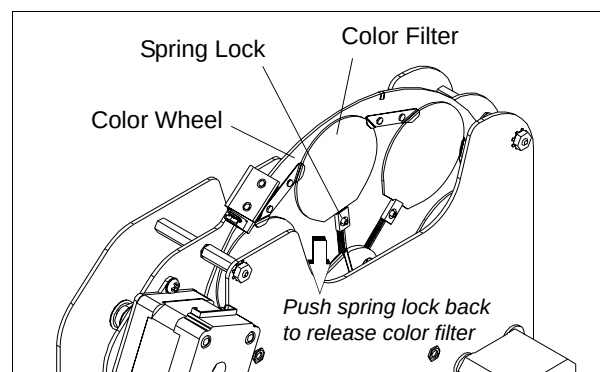

Figure A-4: Replacing a Color Filter
Step 2. Remove top head cover by loosening four 1/4-turn screws as shown in Figure A-4.